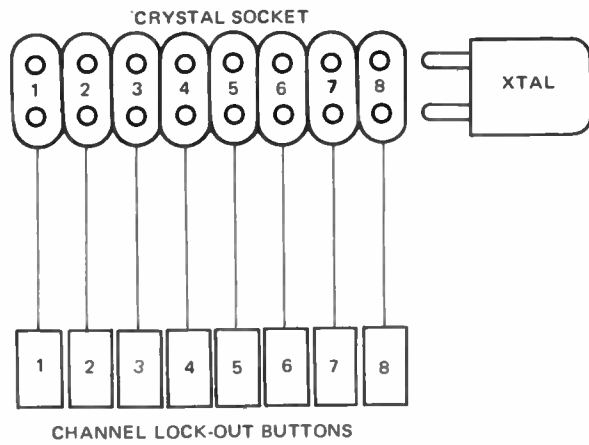

FIGURE 2. CRYSTAL INSTALLATION
- Step 1:** Put all crystals in sockets. Refer to Figure 2.